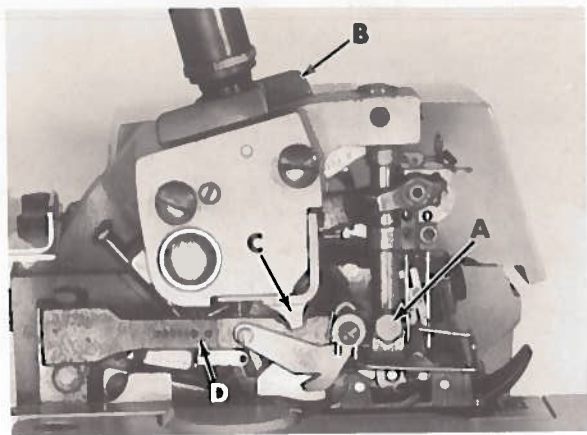
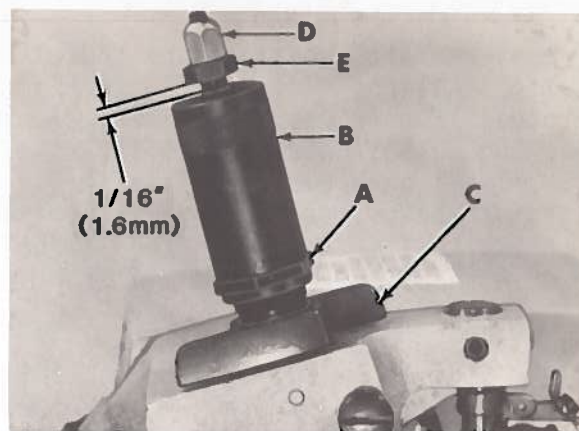

Fig. 23
Fig. 25
To align presser foot bottom, loosen clamp screw (A, Fig. 23) and unlock presser foot release lever (B), but do not raise plunger (C) from presser arm (D). Adjust presser foot front to rear so front of its needle slots align with needle slots in throat plate.
Completely unlock presser foot release lever (B, Fig. 23). Plunger (C) should clear presser arm (D) without binding.
Rotate handwheel in operating direction until both main and differential feeds are positioned below throat plate. Loosen locknut (A, Fig. 25) and turn pressure regulator (B) clockwise for more pressure or counterclockwise for less pressure, then tighten locknut (A).
NOTE: Adjusting pressure regulator (B) will effect the function of pressure release lever (C). Plunger (C, Fig. 23) should clear presser arm when pressure release lever (C, Fig. 25) is unlocked in position. When release lever (C) is locked in position, presser foot should be held firmly against throat plate. If these conditions do not exist the following adjustment must be made.
Lock presser foot in position with pressure release lever (C); loosen capnut (D) and adjust nut (E) up or down so its under surface is 1/16 inch (1.6mm) above pressure regulator (B) as shown in Fig. 25. Hold nut (E) in position and tighten capnut (D).